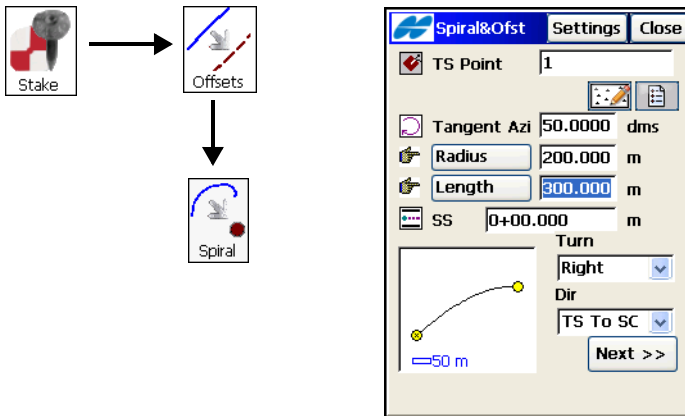

Figure 9-35. Stakeout Spiral & Offset
2. In the Stakeout *Spiral&Ofst* screen, set the parameters of the spiral to be staked out: the starting point of the spiral, the azimuth of the Tangent of the curve at the PC point, the radius parameter of the spiral, the length parameter of the spiral, the direction of turn, direction of movement of the spiral and the starting station (chainage) of the line (Figure 9-35 on page 9-27). The direction values are: *TS -> SC* (*Tangent Spiral -> Spiral Circle*), which is the incoming spiral to the internal circle, and *CS -> ST* (*Circle Spiral -> Spiral*